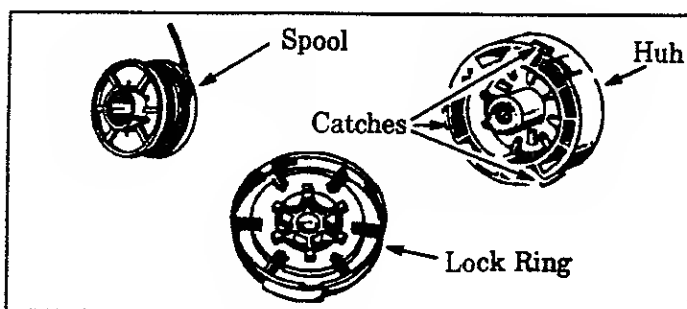

Figure 18
- b. Remove the Lock Ring and Spool. Figure 18.
- g. Check to make sure all three Catches (Figure 18) and the Lock Tab (Figure 19) are properly fastened as shown in Figure 20. Then test the Lock Ring by trying to turn it counterclockwise.